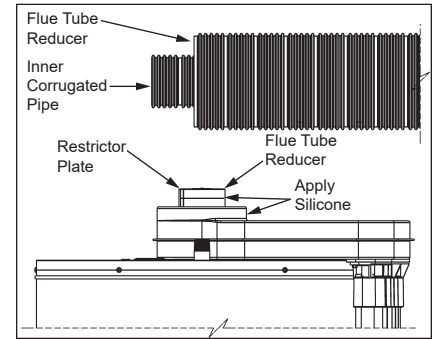
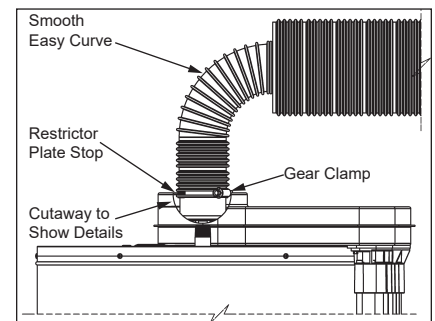
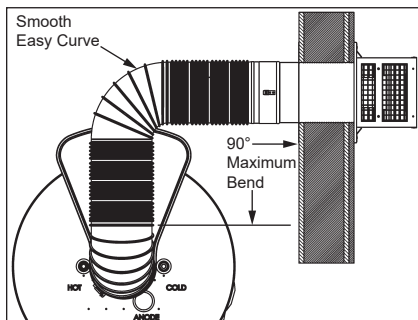
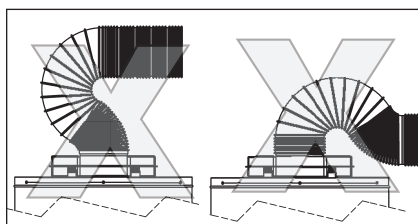

Figure 18 - Uncompressing the Corrugated Tubing
Figure 19 - Vent Connection to the Water Heater
Figure 21 - Venting Alignment (Top View)
Figure 22 - Bad Venting Configurations
- Do not use the restrictor plate in an offset installation (see Figure 21).
- Pull the inner corrugated tube towards the water heater and leave some length over the water heater’s center for bending (see Figure 18).
Bend both the corrugated pipes toward the flue connection on the water heater. Pull and connect the inner corrugated pipe to the water heater’s flue tube reducer with hi-temp red silicone (included) and gear clamp. Make sure this connection is tight and leak proof (see Figure 18 and Figure 19).
NOTICE: To ensure good exhaust gas flow, bend vent piping using a smooth, easy curve as shown in Figure 19 through Figure 21. Do not use reverse or compound curves as shown in Figure 22.